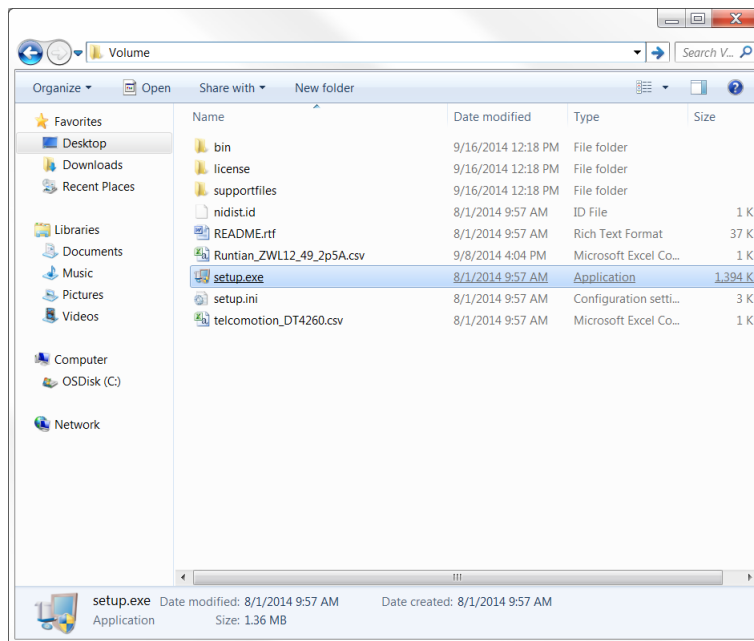

Figure 14. Setup.exe from the Volume Folder
1. Double click on setup.exe from the Volume folder as shown in Figure 14.